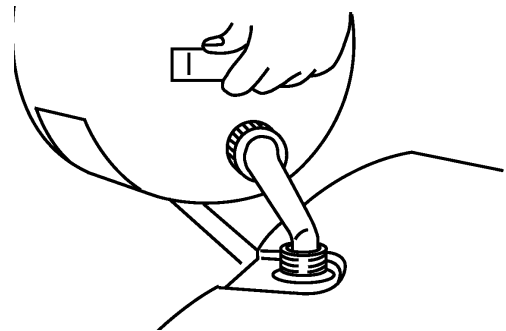

Figure 52
6. Fill fuel tank (Fig. 52) with fresh, clean gasoline/oil mix.